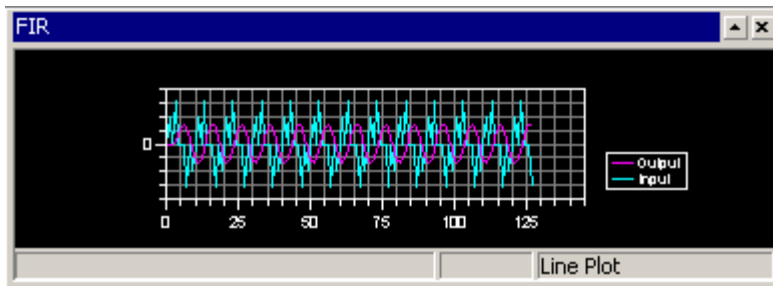

Figure 2-28. Plot Window After Running the FIR Program to Completion
5. Right-click in the plot window and choose **Modify Settings**. On the **General** page, in the **Options** group box, select **Legend** to display the legend box (shown in Figure 2-28 on page 2-41).
When the program halts, you see the results of the FIR filter in the Output array. The two data sets are visible in the plot window, as shown in Figure 2-28 on page 2-41.